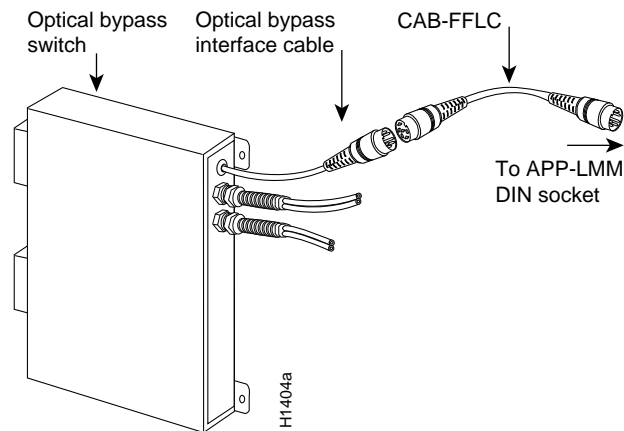

Figure A-16 CAB-FFLC Adapter Cable Connections
- Step 3** Connect the female DIN connector on the CAB-FFLC to the male DIN connector on the optical bypass interface cable. (See Figure A-16.)
- Step 4** Connect the male DIN connector on the CAB-FFLC to the female DIN socket on the APP-LMM FDDI applique. (See Figure A-16.)